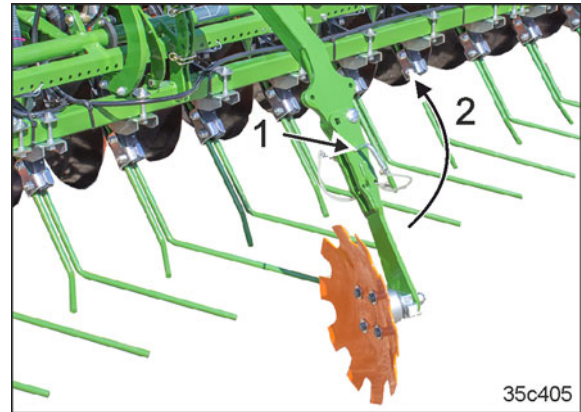

Fig. 242
5. Pull out the pin (Fig. 242/1) and fold the section (Fig. 242/2) with the track disc into transport position.